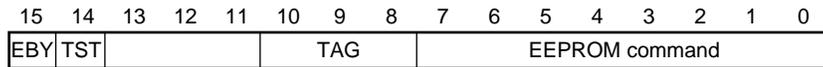
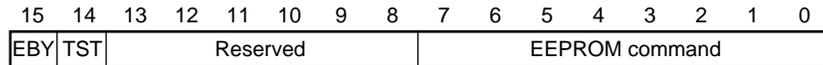

Figure 7-23. EEPROM Command Register (3C509, 3C509B, 3C579, 3C589, 3C589B)
Figure 7-24. EEPROM Command Register (3C529)
- EBY: EEPROM Busy status (read only). Refer to Figure 7-23 and Figure 7-24.